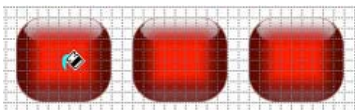

FIG. 360 Paint Properties tool
1. With a Property Set selected in the *Property Painter* dialog, select **Paint Properties Tool** from the Edit menu, the Design View context menu, or click the toolbar button to activate the Paint Properties tool. Note that the cursor icon changes to reflect this tool selection (FIG. 360):